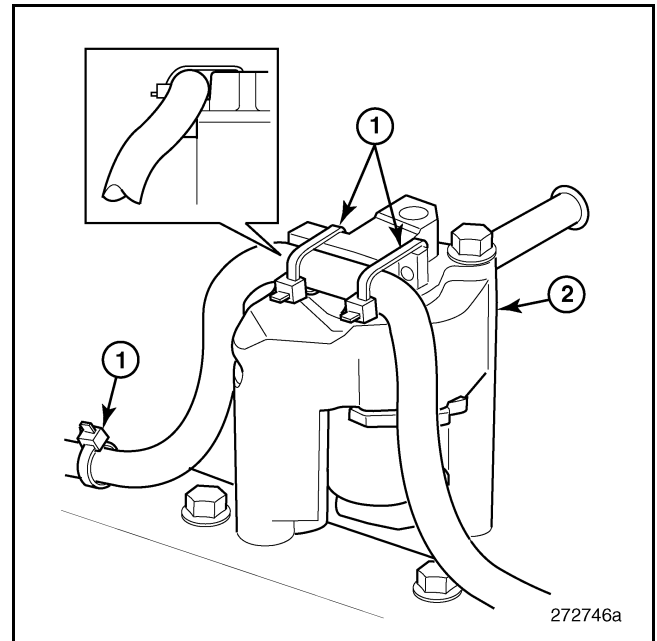

Figure 409 — Harness Routing Over Engine Brake Control Valve
6. Carefully route the wiring harness over the engine brake control valve. Secure the harness to the control valve as shown in Figure 409. Make sure that the harness is positioned to the side of the boss at the top of the valve assembly.